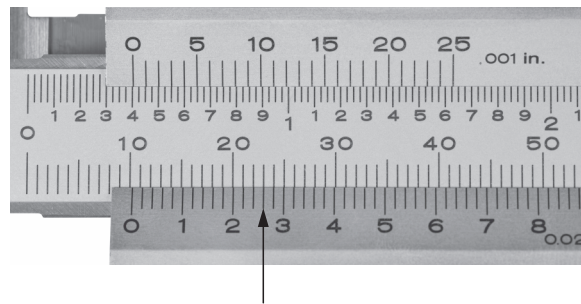

Figure 34: Reading a vernier caliper.
6. Which of the following measurements corresponds to the reading in millimeters shown in Figure 34? The small arrow shows a detail of the metric vernier scale.